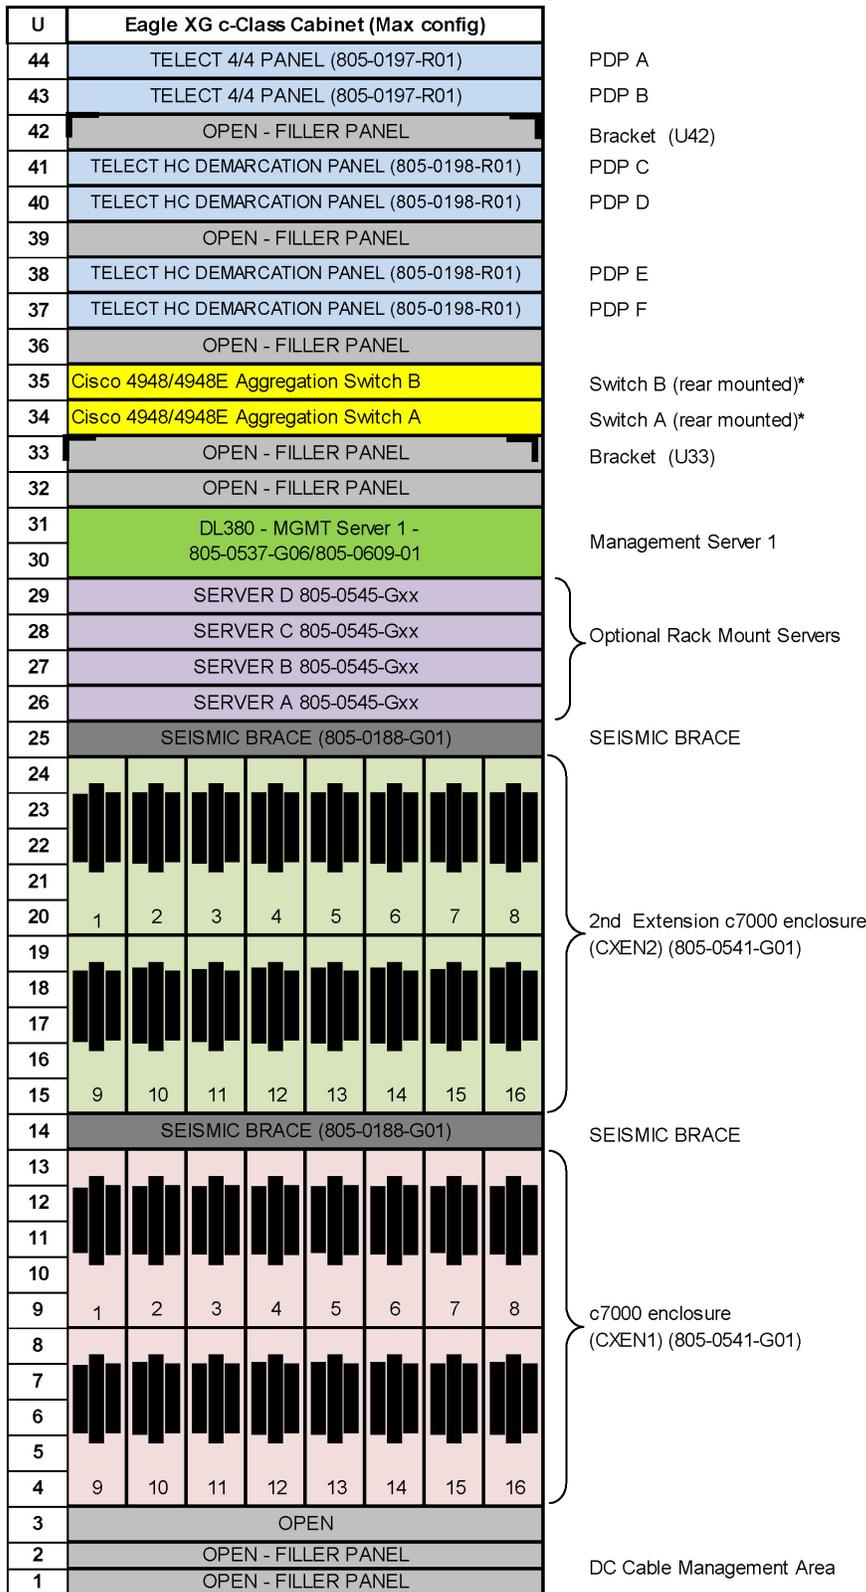

Figure 3: Example of a DC cabinet with Cisco 4948-4948E
- *Figure 3: Example of a DC cabinet with Cisco 4948-4948E*